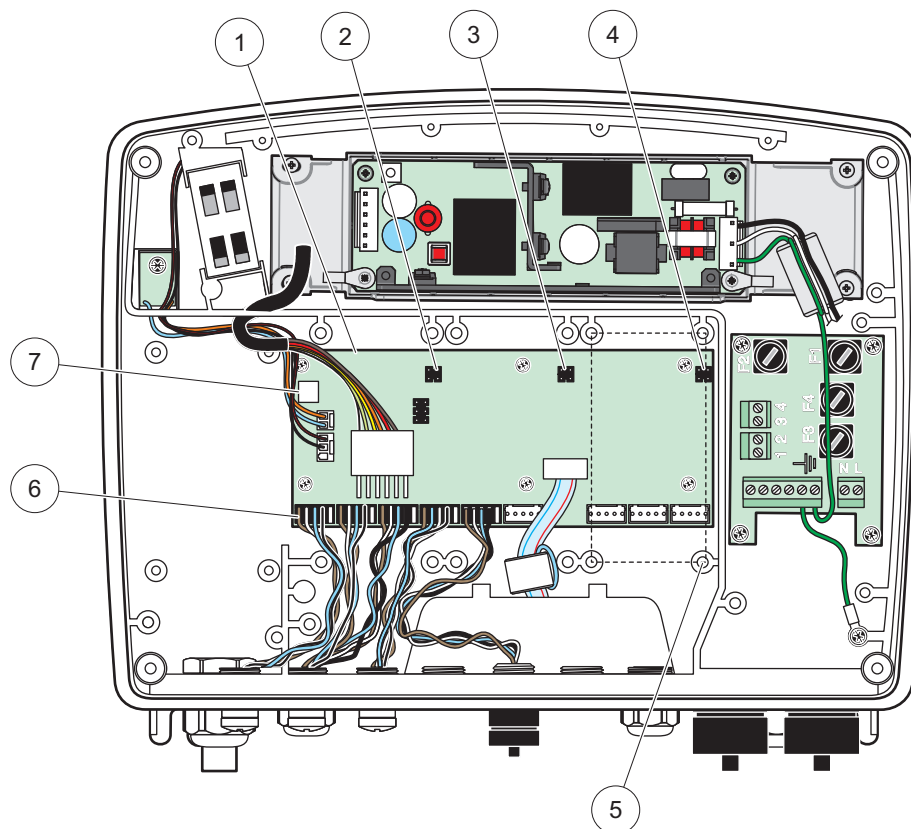

Figure 17 Expansion card main circuit board connections
4. Install the card connector to the appropriate connection on the main circuit board (Figure 17).
3. Install the card connector to the appropriate connection on the main circuit board (Figure 17).